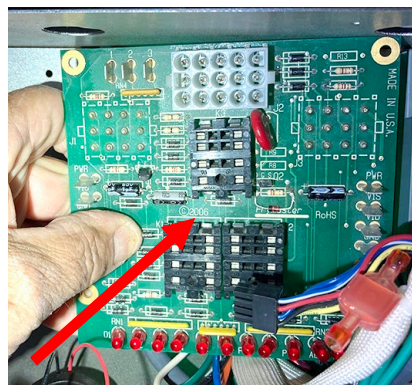

Figure 26
31. Reattach the interface board removed in step 20 and reconnect all the connectors (see Figures 26 & 27). Attach the new ground wire and any other ground wires to the stud of the interface board.